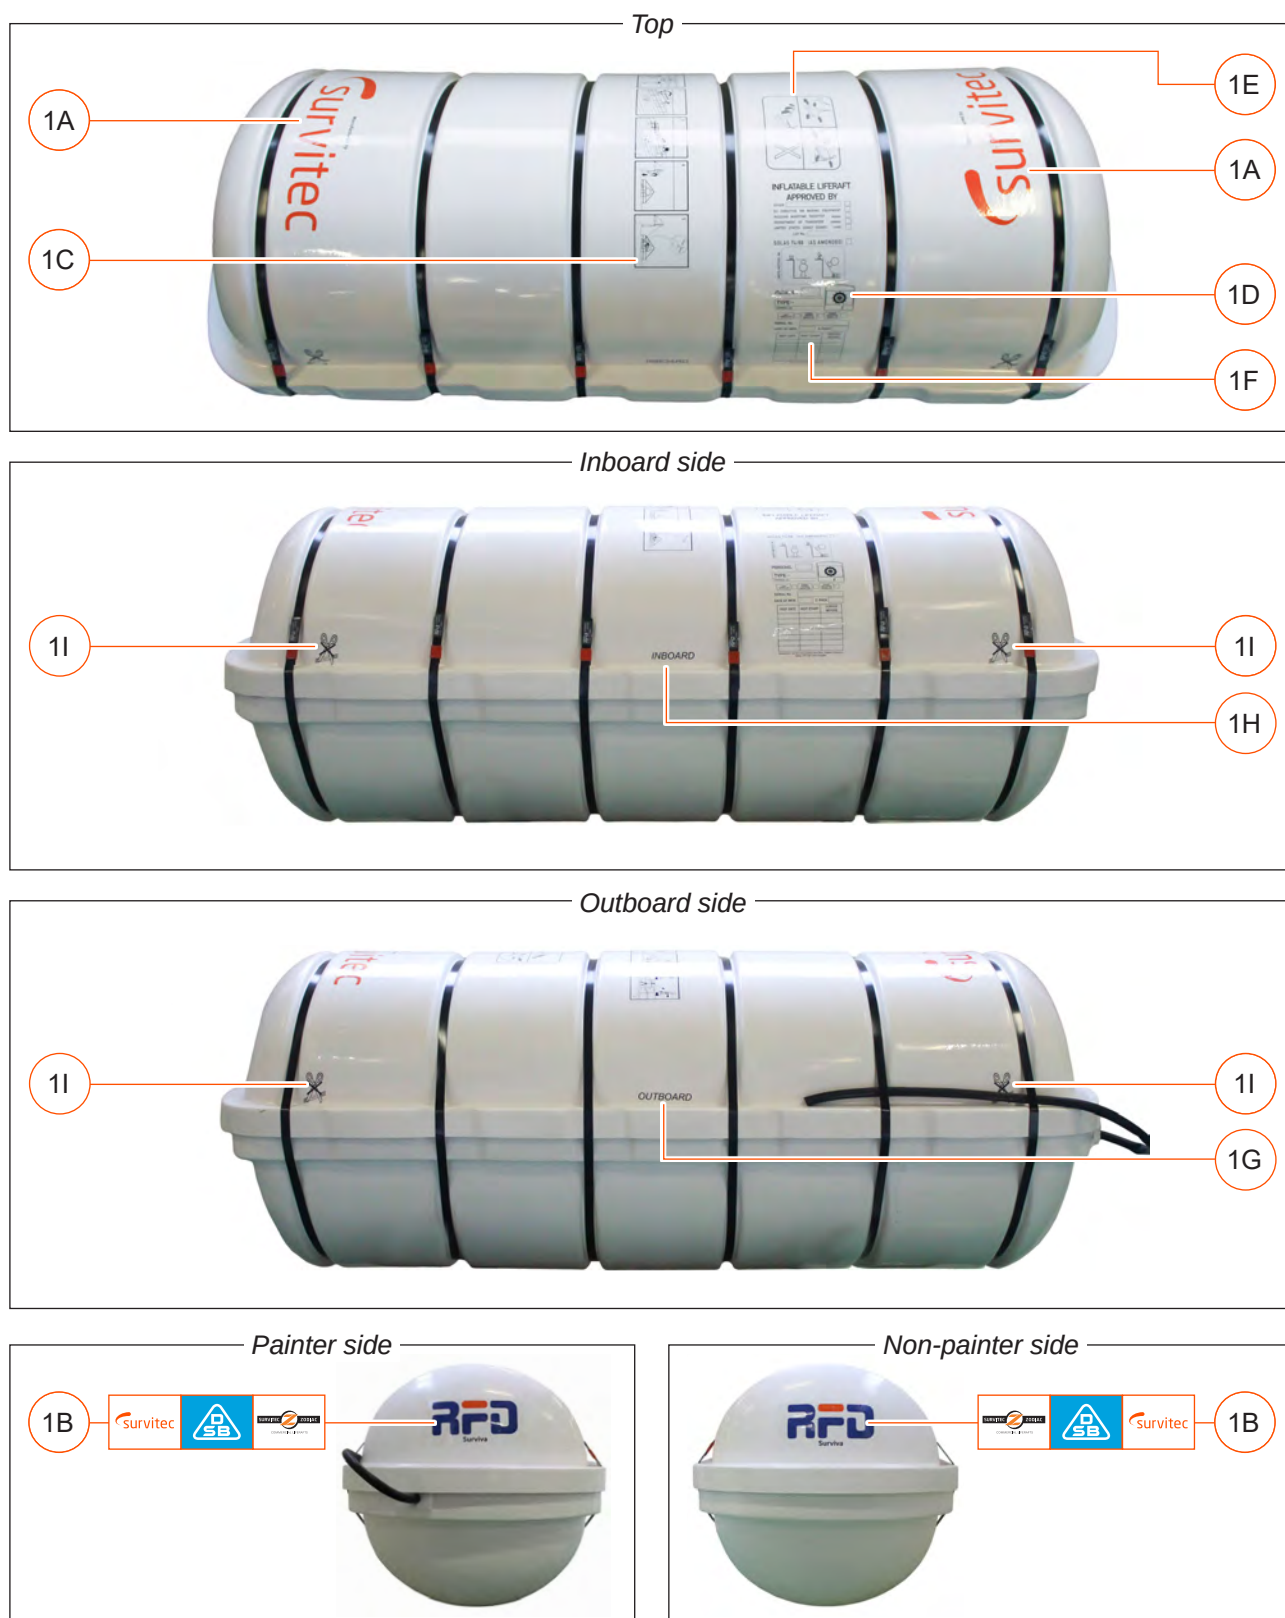

Figure 7
- Mk 10 size 6. Refer to **Figure 7** for label positions.